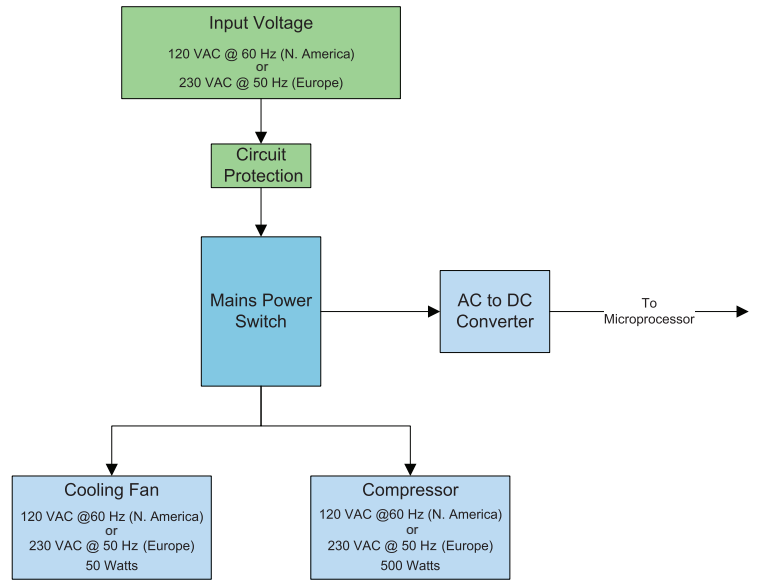

Figure 4: Diagram of Mains Electrical Distribution
All electrical components of the CAIRE Companion 5 are all controlled by a PCB. The electrical cord supplies mains AC power (120 VAC @ 60 Hz North American or 230 VAC @ 50 Hz European) to the main circuit board when the power switch is in the "ON" (I) position. The PCB distributes the mains power to all of the electrical components. The AC mains power is distributed and routed directly to the compressor and the cooling fan. The compressor and cooling fan both operate at 120 VAC @ 60 Hz (North American) or 230 VAC @ 50 Hz (European). The remaining power travels to a DC power convertor/regulator. Figure 4 is a block diagram showing the flow and distribution of mains power into the concentrator.